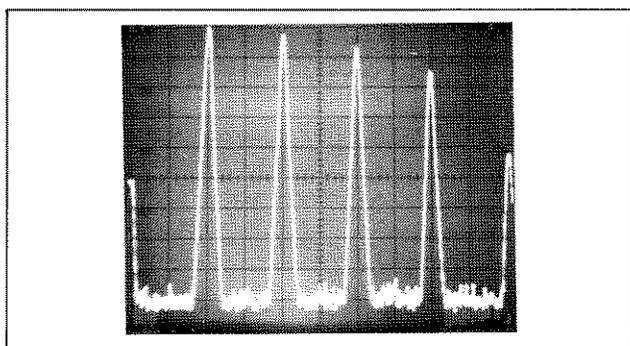

Figure 3-7. Spectral Display (10 kHz Pulse Train).
**3-28. Open Loop.** In the open loop configuration, the 3581 functions as a *signal analyzer* or “selective voltmeter” which divides the input signal into its various frequency components. The amplitudes and frequencies of these components can be measured by manually tuning the analyzer to specific frequencies or by sweeping the analyzer over a given range. For swept measurements, an X–Y recorder or variable persistence (storage) scope can be connected to the rear panel Recorder outputs to provide an amplitude vs. frequency display. The amplitude vs. frequency display shows how energy is distributed as a function of frequency and, in effect, is the Fourier spectrum of the input signal (Figure 3-7). Some of the more common measurements that can be made using the open-loop configuration include harmonic distortion, intermodulation distortion, spurious, square-wave symmetry and noise.